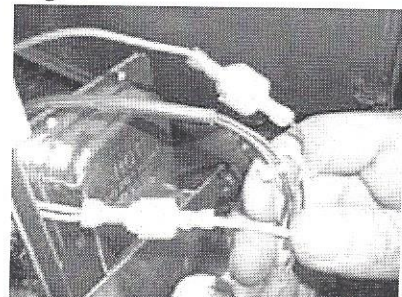

Fig. 5
Step 5 - Connect the white wire from the capacitor to the white wire on the wire harness. Connect the blue wire from the capacitor to the purple wire from the wire harness. (See Fig. 5)